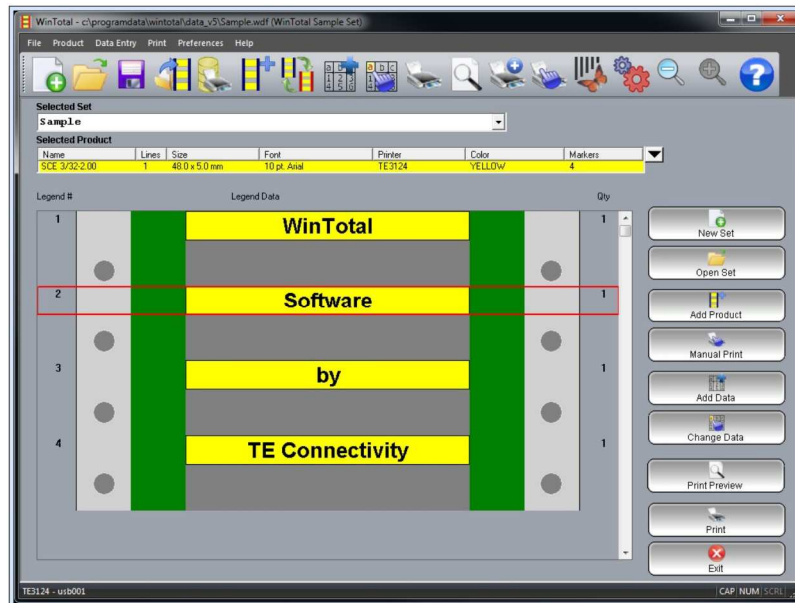

Figure 6
- Double right click on a field to enter the Advanced Label Editing field screen. **Figure 6**